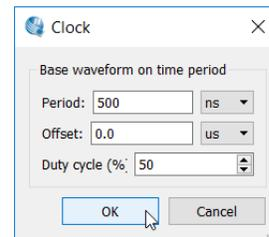

Figure 29. Set period of B to 500 ns.
10. Next, click overwrite clock icon on the toolbar. pop-up window will appear as shown in Figure 29 fill in period 500ns then click **OK**.